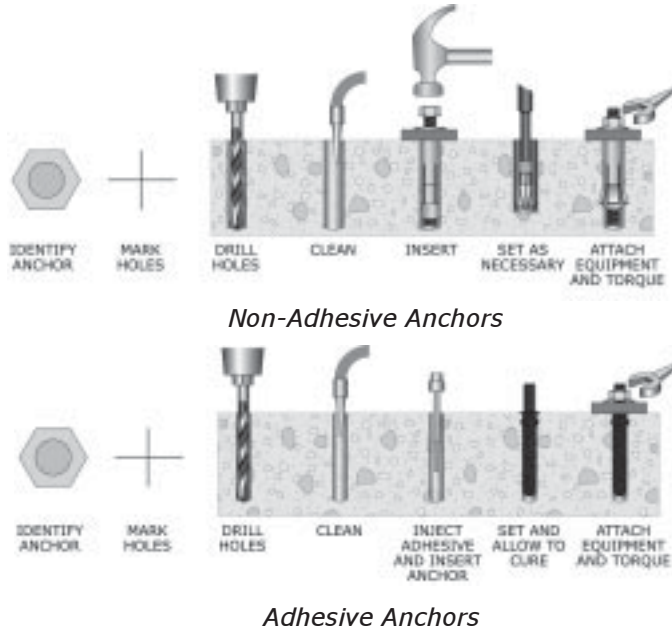

Figure 107: Summary of installation steps.
**The required hole depth may be different from the embedment depth. See Figure 107 (page 110).**